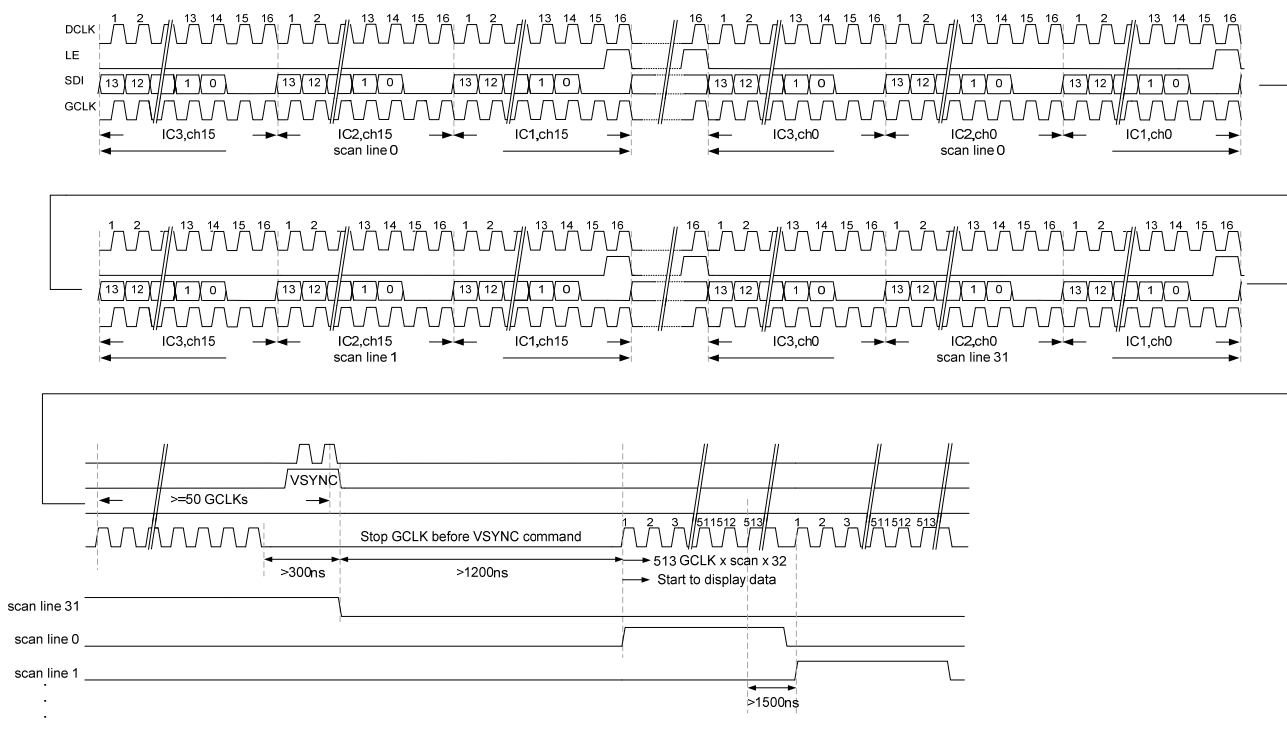

Figure 4. The timing diagram of 14-bit gray scale data
4. The data length of each channel is 16-bits, and the default PWM mode is 14-bits. The sequence of gray scale is bit15 → bit14 → ... → bit2 → 0 → 0 as figure 4 shows. The 13-bits gray scale can be set through Bit[7]=1 in configuration register 1, and the sequence of gray scale data is bit13 → bit12 → ... → bit0 → 0 → 0, the last 3-bits (LSB) are set to "0".